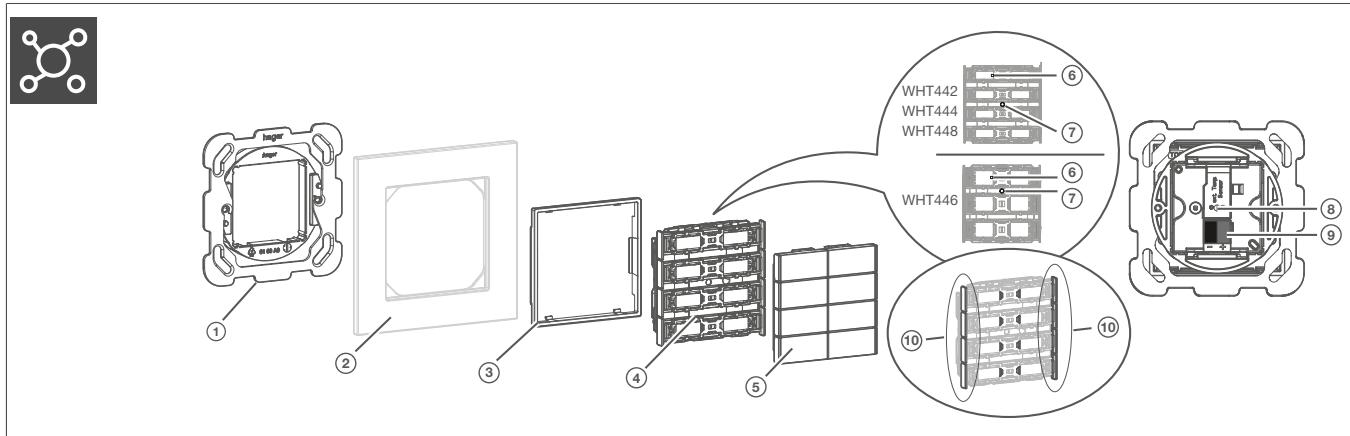

Fig. 5: Design and layout of the device
- ① If available, release the buttons using the programming button Fig. 5/7: Design and layout of the device .
- ② Switch on the bus voltage.
- ③ Press the programming button.
The programming LED Fig. 5/6: Design and layout of the device lights up.